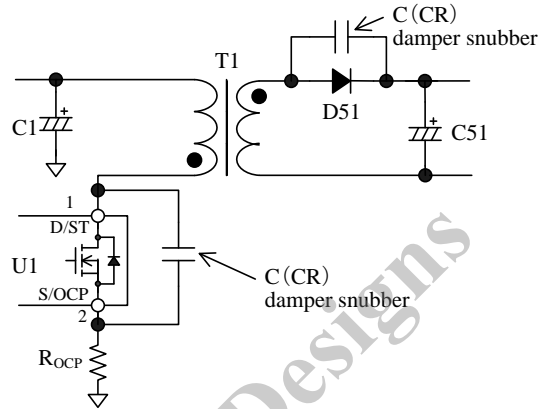

Figure 9-24. Damper snubber circuit
In addition, if a C (RC) damper snubber of Figure 9-24 is used, reduce the capacitor value of damper snubber. If the turn-on timing isn't fitted to a V_{DS} bottom point, adjustments are required (refer to Section 9.7.2).